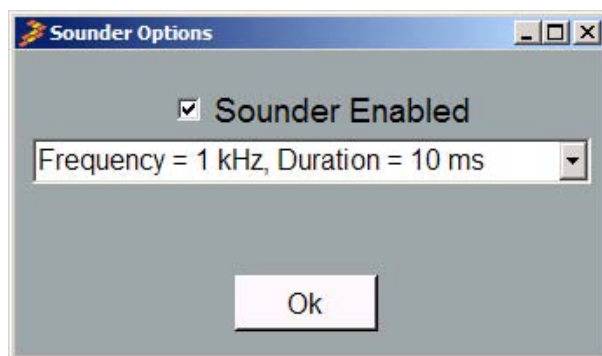

Figure 22. Sounder Options
F. Sounder Register – The Sounder Register is used to configure the piezo buzzer on board to give audible feedback to the user (Figure 22).